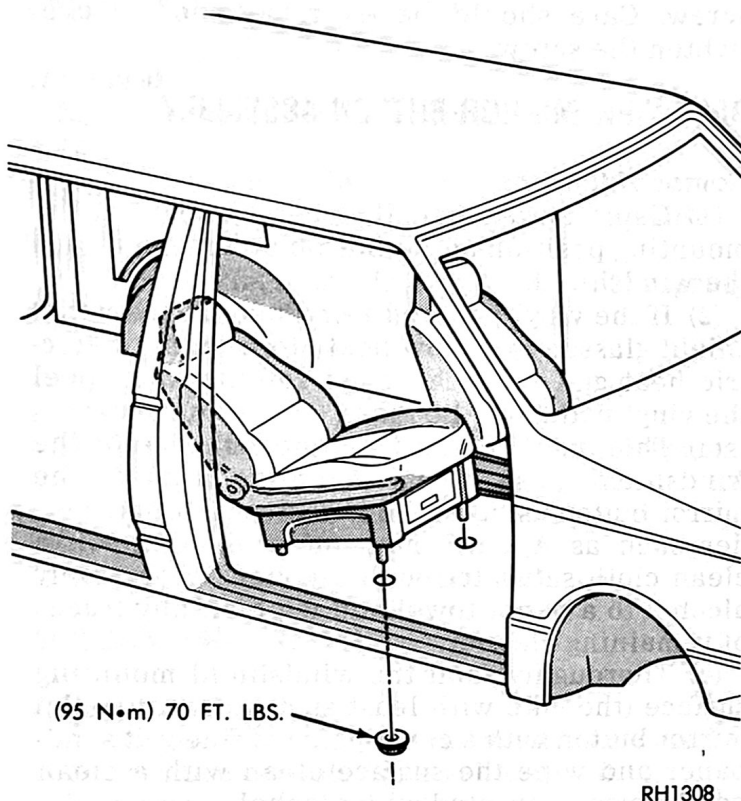

Fig. 1—Front Seat Attachment
- (1) Raise vehicle on hoist (See Group O Lubrication and Maintenance).
- (2) Remove the four nuts/washers that fasten the seat riser to the floor pan (Fig. 1).
- (3) Lower the hoist and remove the right seat assembly.
- (1) Insert seat riser studs through the holes in floor pan (Fig. 1).
- (2) Raise vehicle on hoist (See Group O Lubrication and Maintenance).
- (3) Torque the four seat riser to floor pan nuts to 94 N•m (70 Ft. Lbs.)
- (4) Lower the hoist.